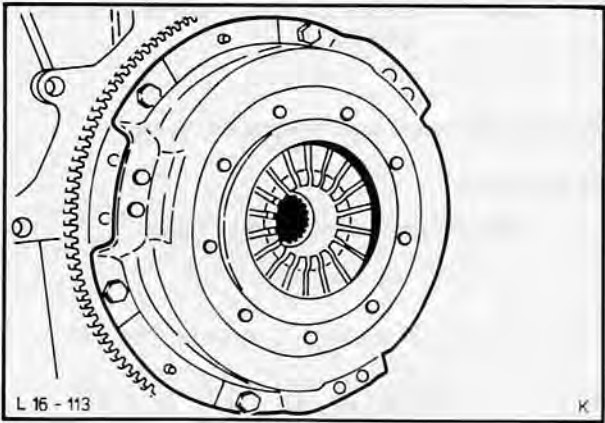

Fig. 132. Remove clutch pressure plate
- 1. Release clutch pressure plate from flywheel, slackening the 6 bolts evenly, and remove, Fig. 132. Detach pressure plate and clutch disc.